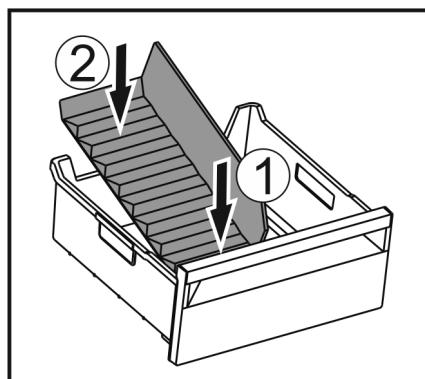

Fig. 103
- ▶ Insert the front part of the ice compartment divider. Fig. 103 (1)
- ▶ Lower the rear part of the ice compartment divider to the drawer bottom. Fig. 103 (2)